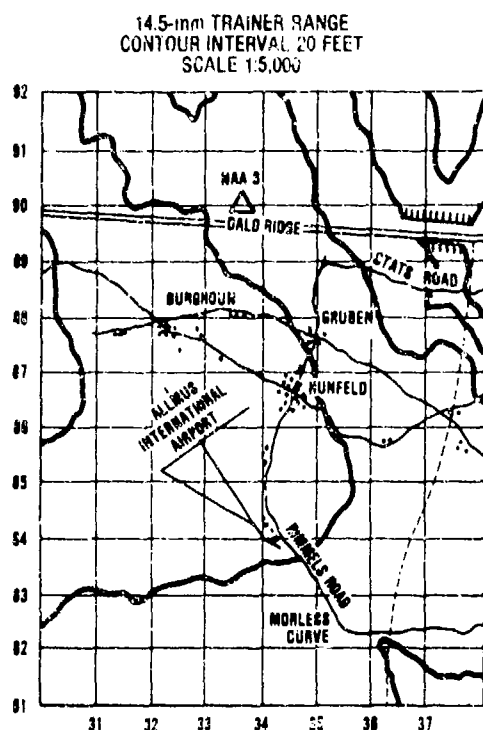

Figure 9-4. Example of a 14.5-mm range map.
a. For permanent and semipermanent ranges a 1:5,000 scale map of the impact area should be constructed. Most training aids centers can "blow up" a portion of a 1:25,000 or 1:50,000 scale map five or ten times in order to make a 1:5,000 scale map. Shown in figure 9-4 is a type 1:5,000 scale map of 800 meters by 1,100 meters. The map shows the contour lines and terrain features shown on the original map. After the roads, buildings, and other terrain features (such as small mounds and orchards) have been positioned and accurately located by survey, they are included on the map. The map need not be in color if the terrain is fairly level and there are few contour lines; however, it should contain sufficient information on buildings, roads, orchards, etc., which will permit the observer to locate targets in relation to a known point that he can identify on the ground and on the map. The grid lines on the special map are 100 meters (1000 decimeters) apart which permits the observer to use the 1:50,000 scale observed fire (OF) fan and the coordinate scale he would normally use with the 1:50,000 map.
b. When labeling the grid lines on the special map, use the 100-meter value (see fig 9-4). For example, if you are preparing a map of the range which is located in the shaded square of a 1:50,000 map, you would label the grid lines of the special map as shown in figure 9-4, leaving off the 10,000-meter digit and adding the 100-meter digit.